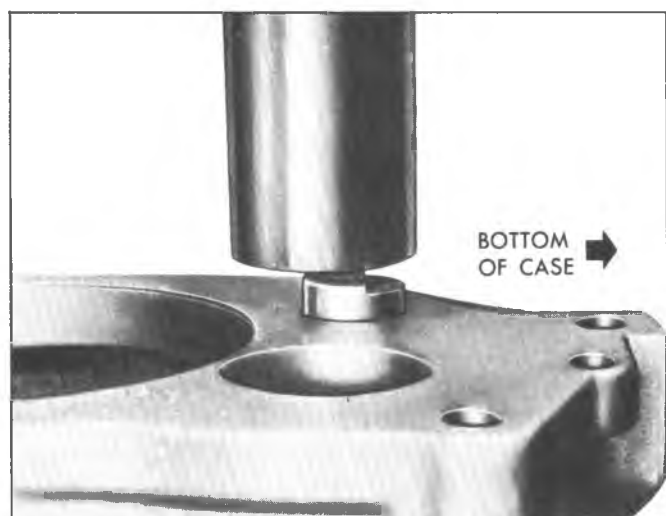

Fig. 16B-Installing Countershaft
5. Align counter gear with shaft in rear and hole in front of case, and press countershaft into case (pushing assembly tool out front of case) until flat on shaft is flush with rear of case. Be sure thrust washers remain in place (fig. 16B).